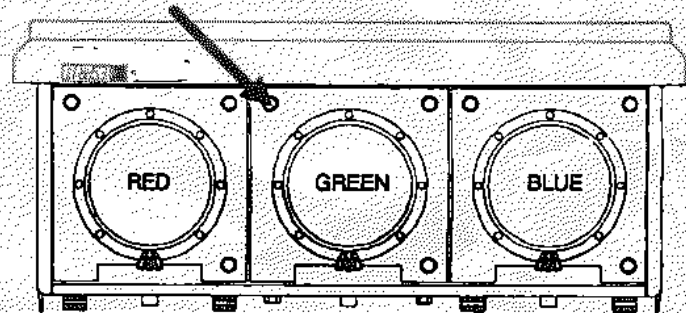

FIGURE 8-5. STEP 5.
- **STEP 5. GREEN ONLY!** Adjust the upper left lens adjustment for side-to-side focus. See figure 8-5.